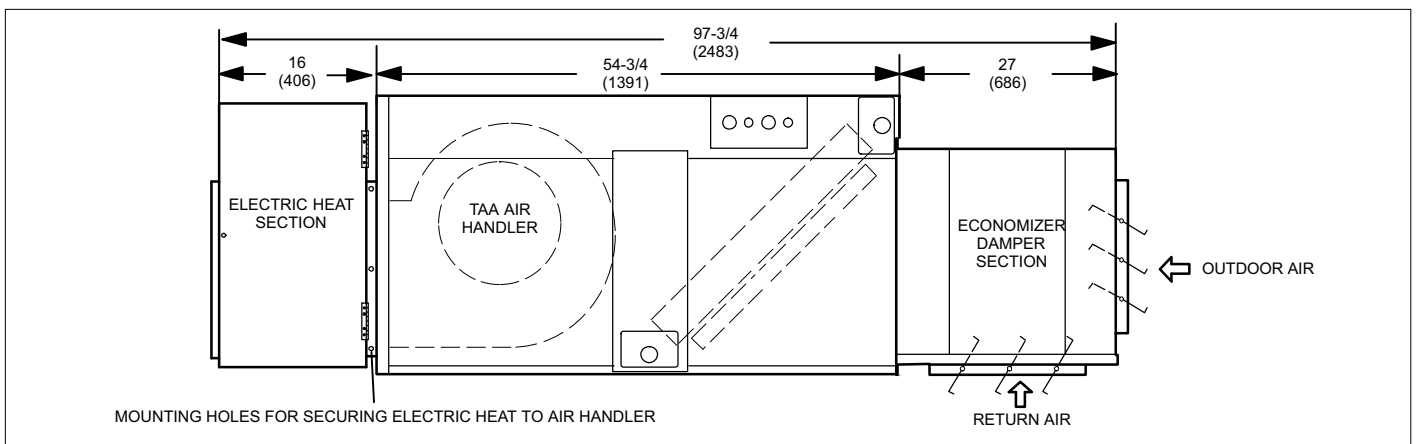

Figure 5. Horizontal Application - Dimensions - inches (mm)
T3EH series heat sections are used as primary heaters for TAA072 - 240 series units. T3EH heat sections may be installed in either upflow or horizontal air discharge applications as illustrated in figures 5 and 4. The T3EH units are designed for indoor use only.
6. Align the electric heat section unit with the air handler unit. Align the grommet on the T3EH with the TAA knockout as illustrated in figures 5 and 4.